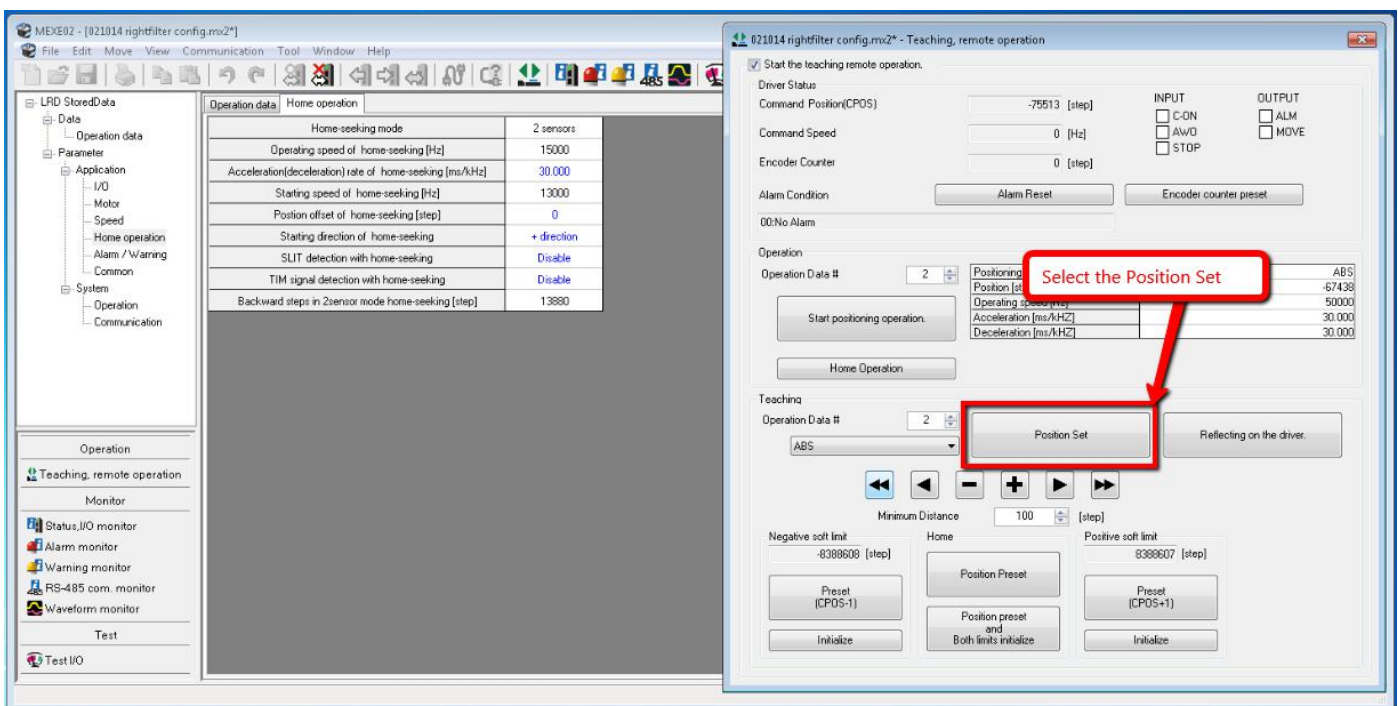

Figure 38 Set Position
30. After value has been detected within the range that is mentioned in the Step 29, press the Position Set as show in the Figure 38.